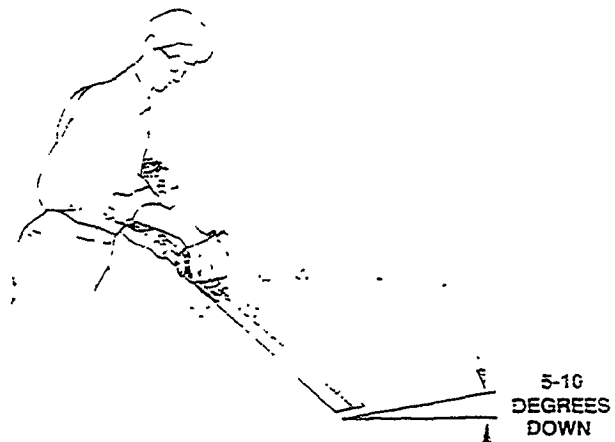

Figure 14
- Tilting the trimmer 5-10 degrees into your work will make your job easier and produce a better cut. (Figure 14).